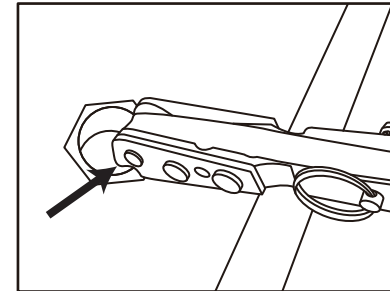
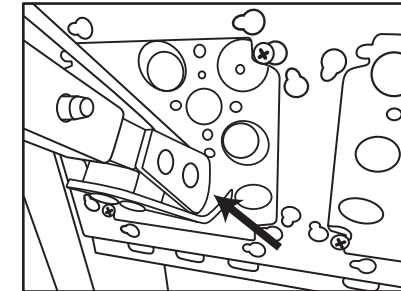

Fig 10
Fig 11
1. Place Front Roller Payoff (7) against edge of conduit or pull box (Fig 10), the use of the removable Conduit Adaptor (8) (Fig 11) can be used to lock in the puller around small size conduits, use of the notch cut out on the Front Roller Payoff (7) bracket that will allow user to lock in the Front Extension (6) against the edge of most conduit or panel boxes. Start puller by pressing trigger on 18-Volt drill. Drill motor will work in forward or reverse dependent on direction of wrap of rope on the Capstan (1). Start hand drill motor slowly to take up any slack before pulling in high speed.